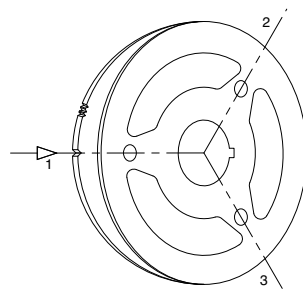

Fig. 19b:
- b. Three cylinder engine (M-SC10): After adjusting the valves of cylinder 1 turn the crankshaft 240 degrees clockwise from the T.D.C of cylinder 1 to the T.D.C of cylinder 3. Position 2 fig. 19b against the notch. Adjust the valves of cylinder 3. Then turn the crankshaft 240 degrees further clockwise to the T.D.C of cylinder 2 and adjust the valves; position 3 fig. 19b against the notch.